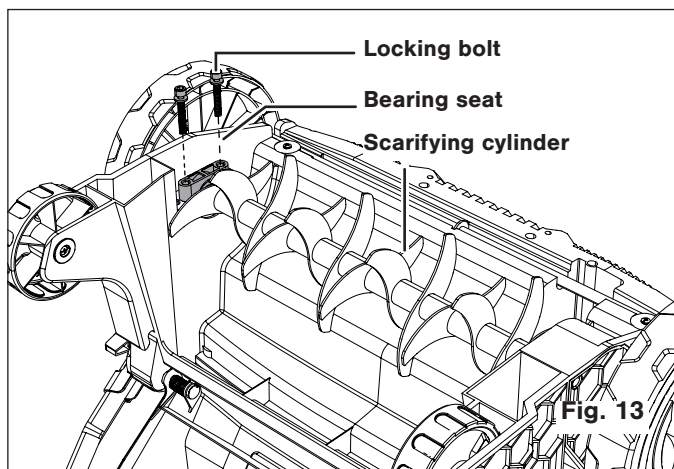

Fig. 13
3. Loosen the two locking bolts with the provided hex key wrench, remove them together with the attached cutting device (Fig. 13).